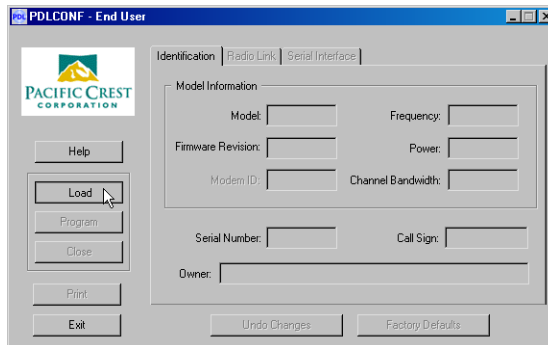

Figure 2-29. Click Load
- Click **Load** to connect to the radio (Figure 2-29).